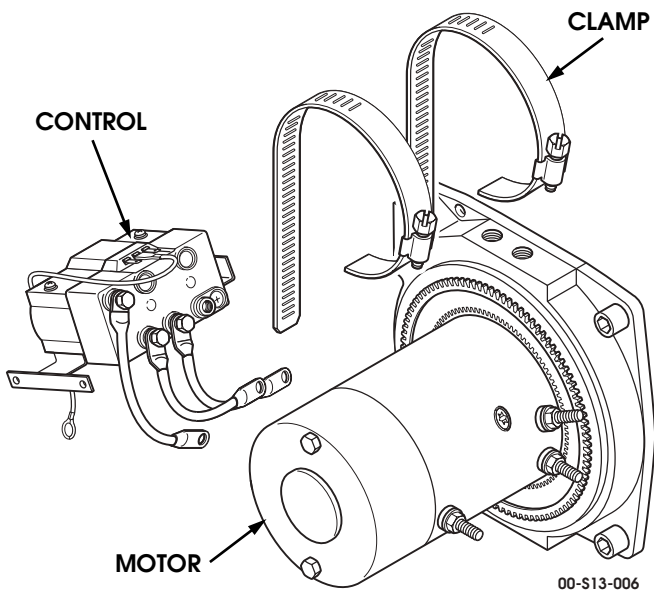

Figure 9-189: Control Unit
3. Loosen clamps and remove control from motor (Figure 9-189).